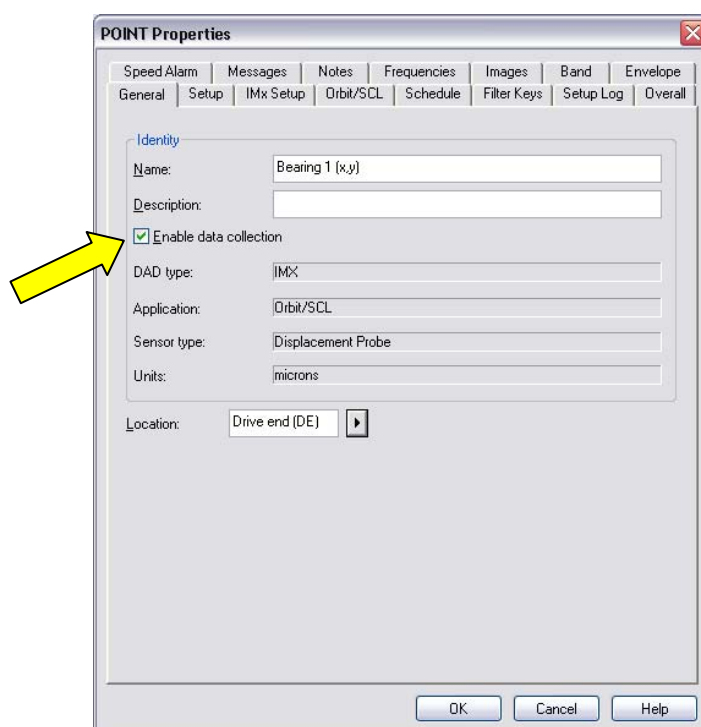

Figure 3. General tab
2. In the **General** tab under POINT Properties, input the POINT name and check the *Enable data collection* option. [Figure 3]